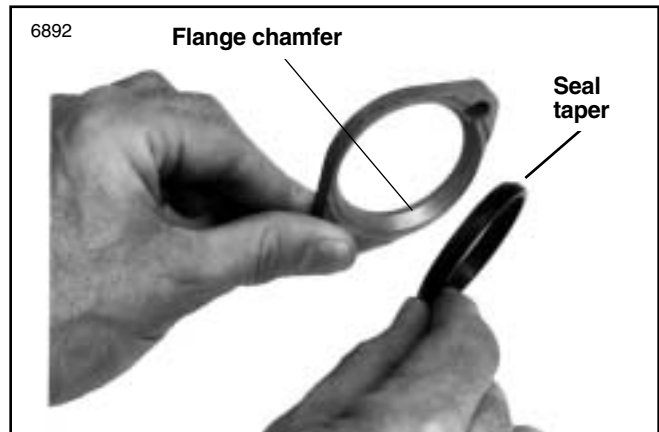

Figure 1. Relationship of Flange and Tapered Seal
4. See Figures 1,2 and 3. Assemble the manifold as follows: